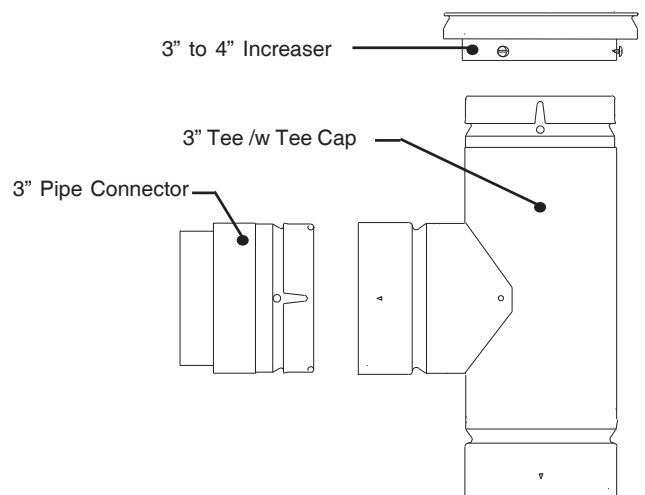

Figure 7a - Unassembled Components
.2 Attach the 3" portion of the Increaser to the male end (top) of the Tee and secure in place with the three (3) supplied friction fit screw stop (Figure 7a&b). Smooth out the excess silicone where the Increaser meets the Tee.